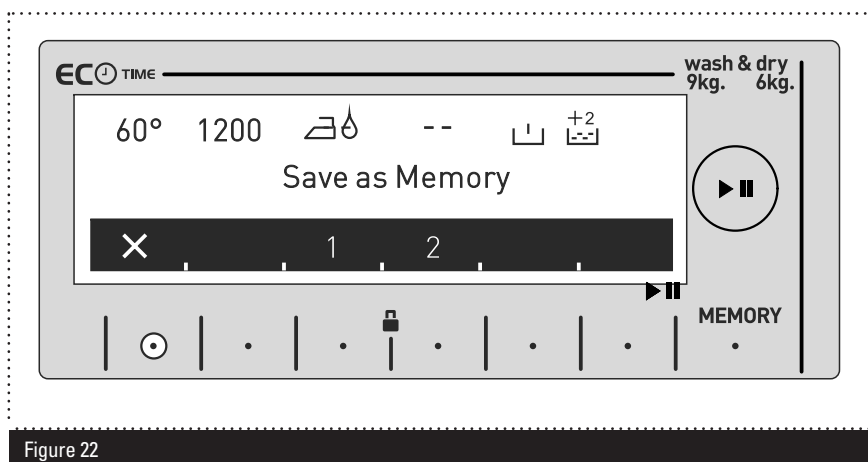

Figure 22
- » 'Save as Memory' will be displayed on the information screen (fig 22).